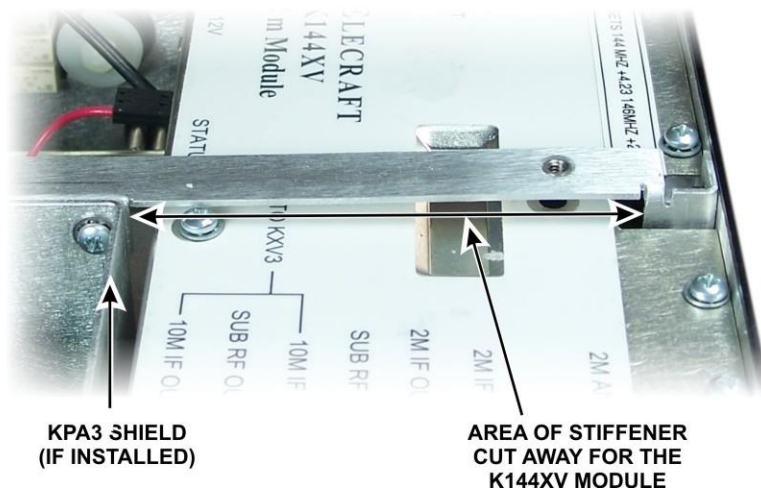

Figure 11. Chassis Stiffener for K144XV.
- Replace the chassis stiffener using the screws you removed earlier. If your original stiffener lacks the cutout required for the K144XV as shown in Figure 11, use the stiffener supplied with your K144XV kit.